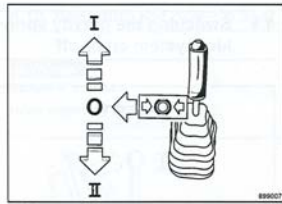

Fig. 34
- Move the travel lever (Fig. 34) slowly to the desired travel direction.